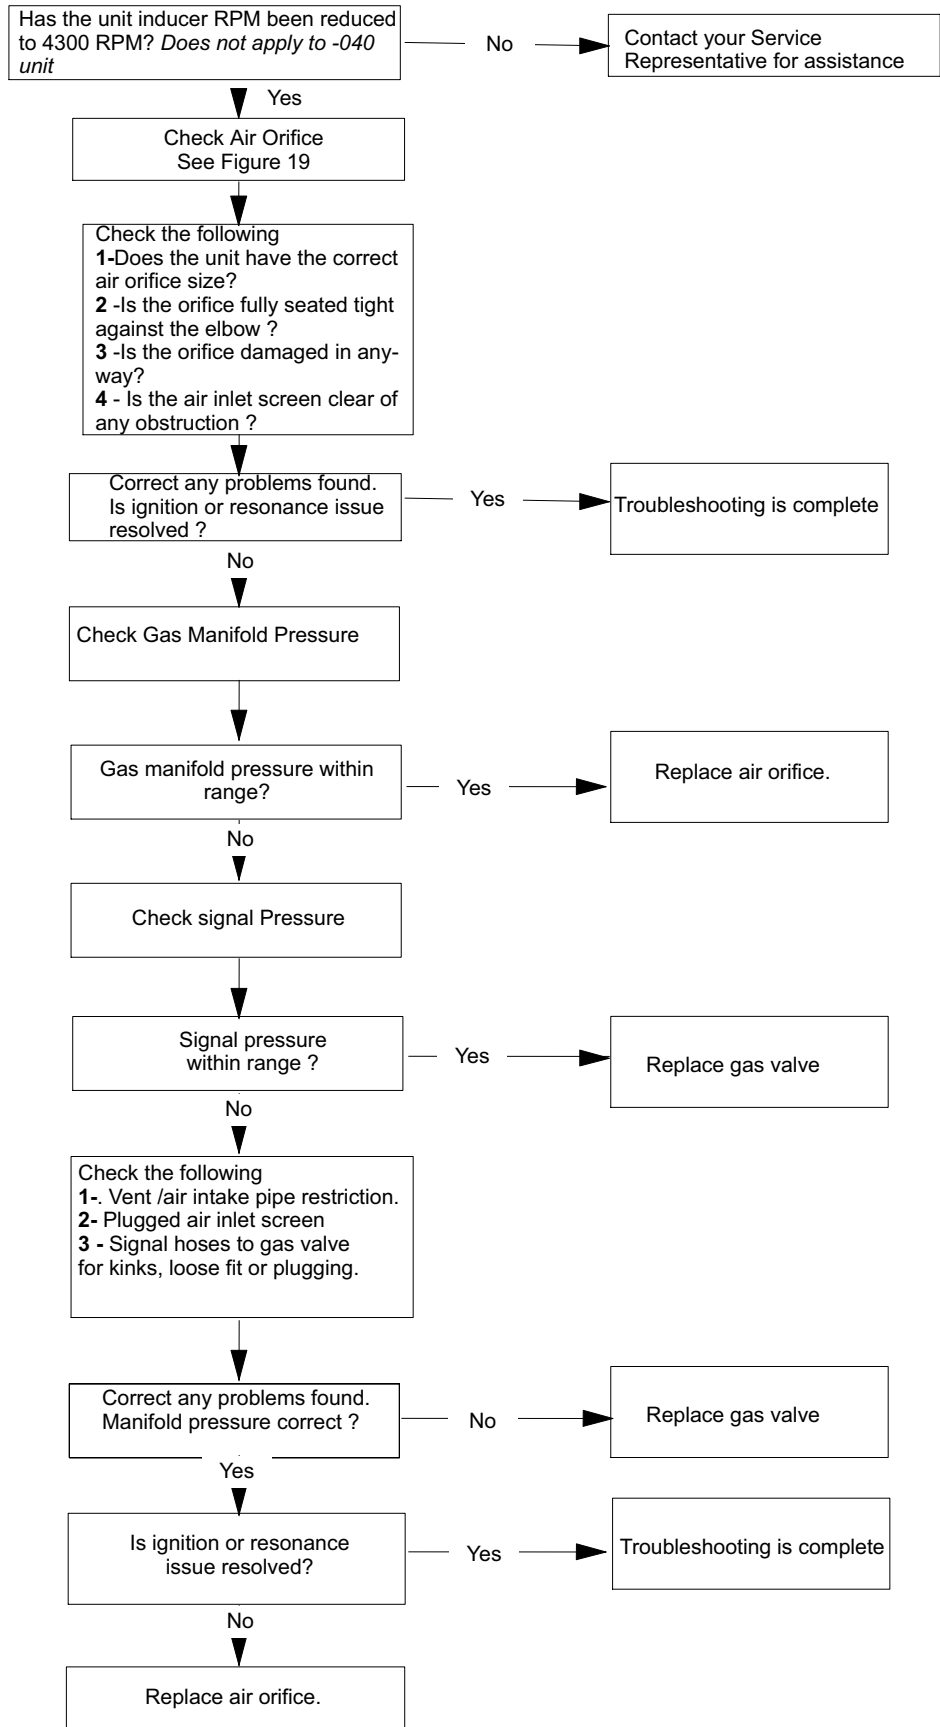

FIGURE 21
- 9 - Repeat manifold and signal pressure check. If unit ignites and manifold and signal pressure are correct, move on to combustion check. If unit still does not ignite or ignites with loud resonance go to Troubleshooting figure 21.